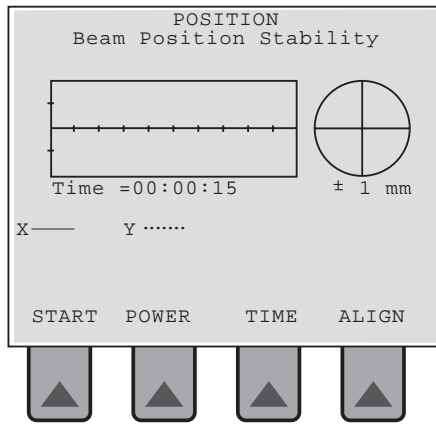

Figure 10. Beam Position - Quadrant Thermal Detector Head CW
**Position Screen** - The Beam Position Stability screen, shown in Figure 10, appears when, from the Home screen, the ALIGN soft key is pressed and then the POSITION soft key is pressed. This screen allows you to observe the positional stability of the beam over a selectable period of time.